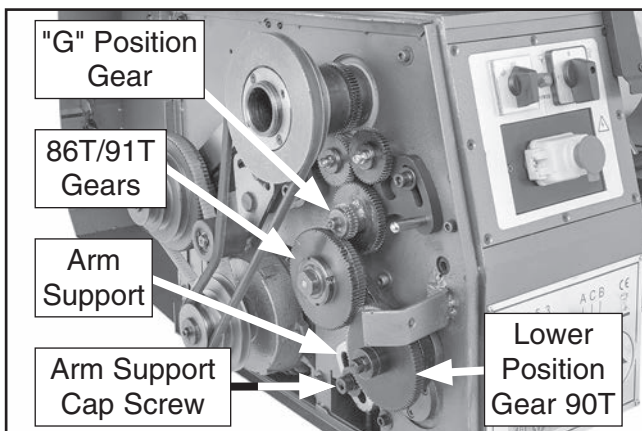

Figure 70. Arm support and end gears.
4. While holding **86T/91T** gears, loosen arm support cap screw shown in **Figure 70**, and slowly let gears pivot down and away from "G" position gear.